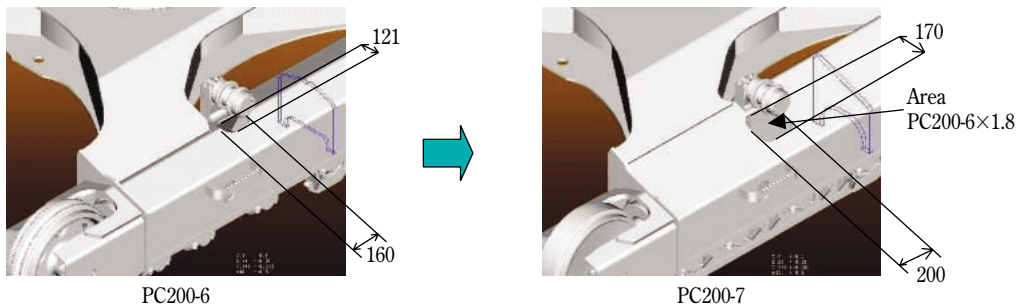

Fig. 22 Improved Maintainability
- (3) Another contrivance put in force is to have widened space between the radiator and the oil cooler for easier cleaning. In addition to that, single disassembly and installment of the radiator and the oil cooler alone are made possible to shorten a time required for repairs or replacement, should it happen.
- (4) For the manufacture of the fuel tank, plating steel sheet metal has been adopted to heighten rust prevention property of the interior wall. At the same time, the capacity has been increased by 18% to render it to be a large capacity tank, so that once it is refilled, it can last operation for a considerably long period. The fuel tank drain valve was moved to the right side of the door for an easier access. A water separator with a pre-filter is now provided in the fuel system as part of the standard specifications to prevent water and dust from entering the engine.
- (5) A washable floor mat with a slight slant toward the cab door is laid on the cab floor. It makes it easier to flush the floor and drain water. A drain hole is provided under the floor mat at the front. Filters for circulating the inside air and outside air intake are detachable without any tool. Cleaning them has become easier.
- (6) A slant track frame and a mud trap the size of which has been enlarged 1.8 times as large as the previous one have been adopted for the new machine. Thanks to them, cleaning work including mud removing became easier than before. (See Fig. 22)